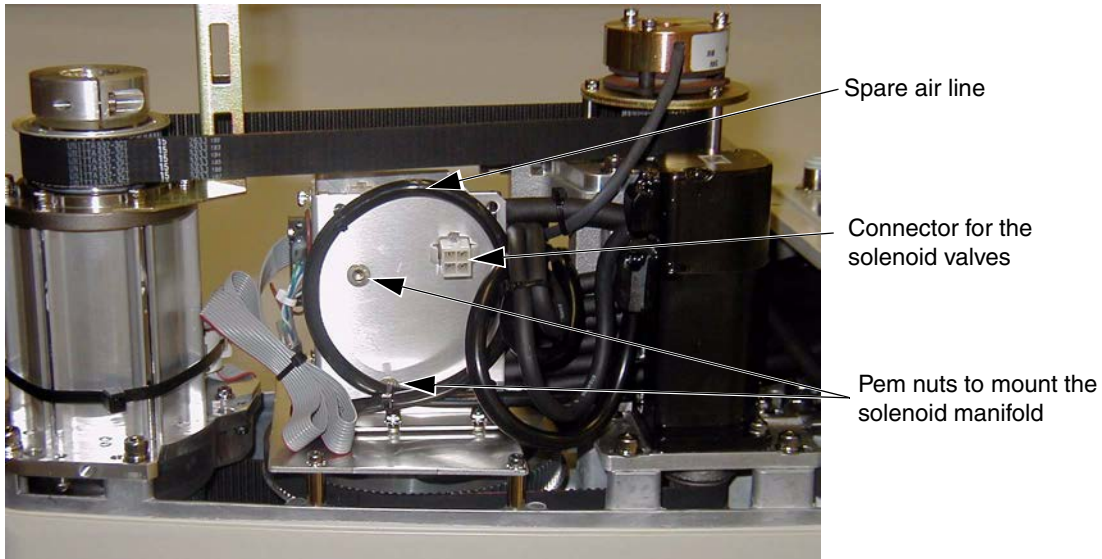

Figure 6-9. Solenoid Mounting Bracket with Connector and Spare Air Line
The robot has been pre-wired to accommodate a bank of two 24 VDC solenoid valves. Power for the internal mounting is accessible via a connector mounted inside the outer link cover (see Figure 6-9 on page 81). The signals actuating the valves are directly switchable from MicroV+ utilizing software signals 9 and 10. Each driver is designed to handle 24 VDC solenoids at a nominal 75 mA per valve.
4. Cut and discard the cable ties holding the spare air line at the top of the mounting bracket. Move the air line away to facilitate the mounting of the solenoid manifold (see Figure 6-9).